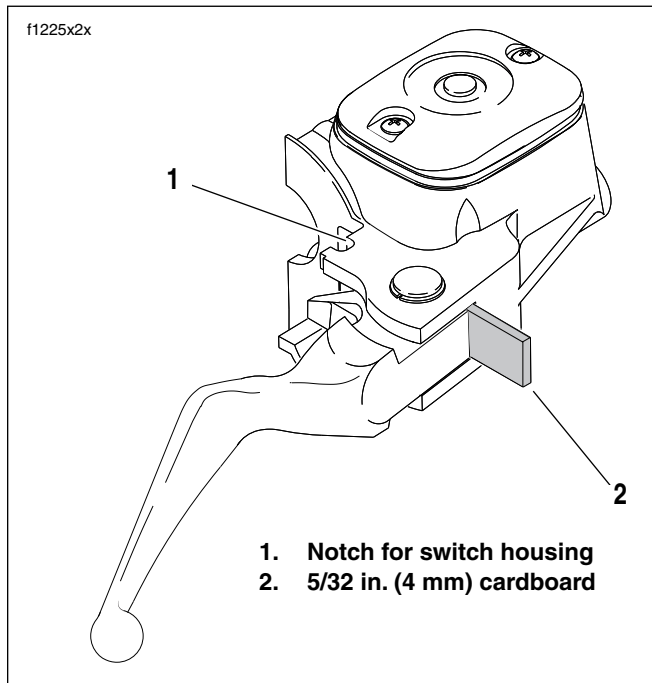

Figure 2-26. Cardboard Insert
3. See Figure 2-26. Squeeze front brake lever and insert a 5/32 in. (4 mm) thick cardboard insert between front brake lever and lever bracket.